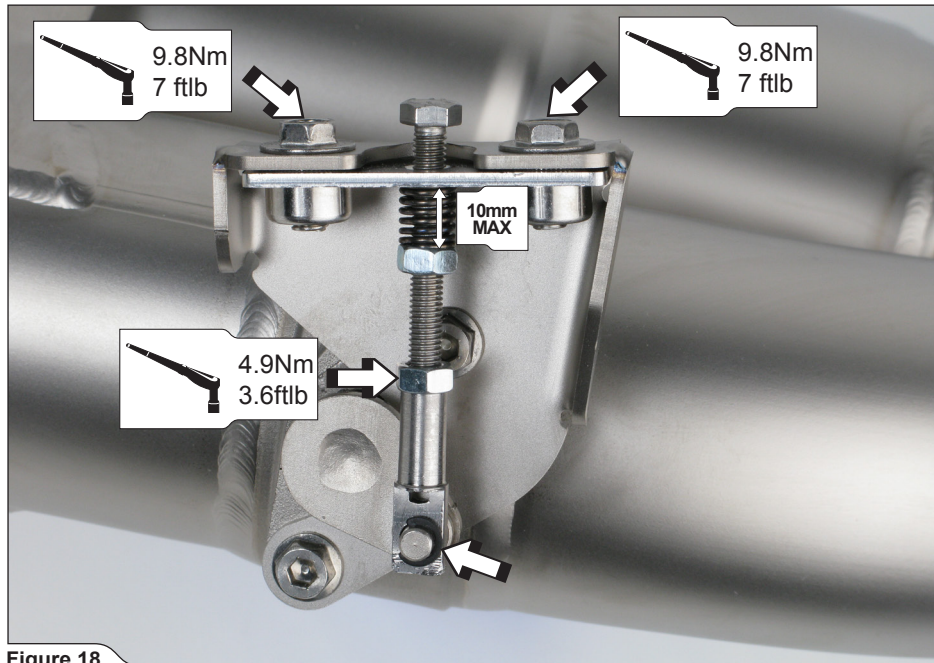

Figure 18
5. For V6 and V8-non turbo vehicle models with Akrapovič optional wireless kit only: **Opened position of the valves:** fixate the exhaust valves in the opened position, using brackets, bolts, nuts, springs, angular junctions and snap rings from Akrapovič installation kit (**Figure 18**).